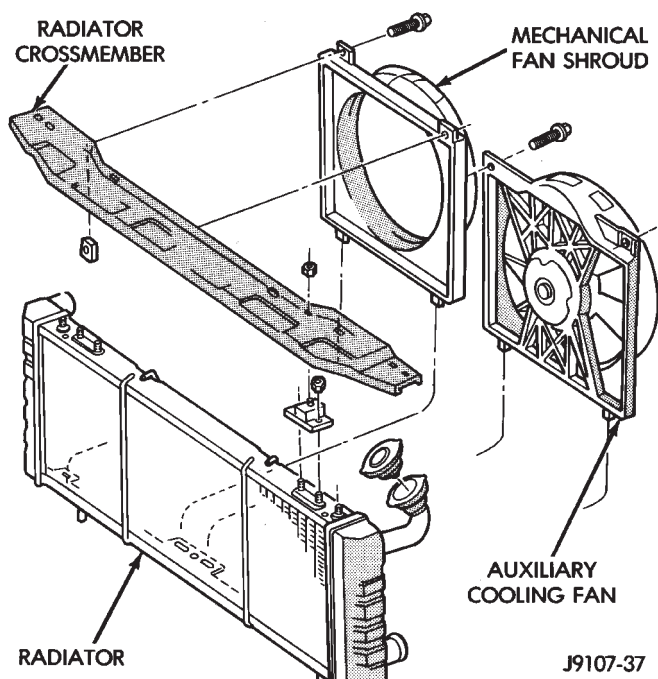

Fig. 17 Fan and Shroud
- (1) Recover refrigerant from the system.
- (2) Remove the upper radiator support.
- (3) Remove the fan shroud and remove electric fan from the radiator (Fig. 17). Refer to Group 7 Cooling for procedure.